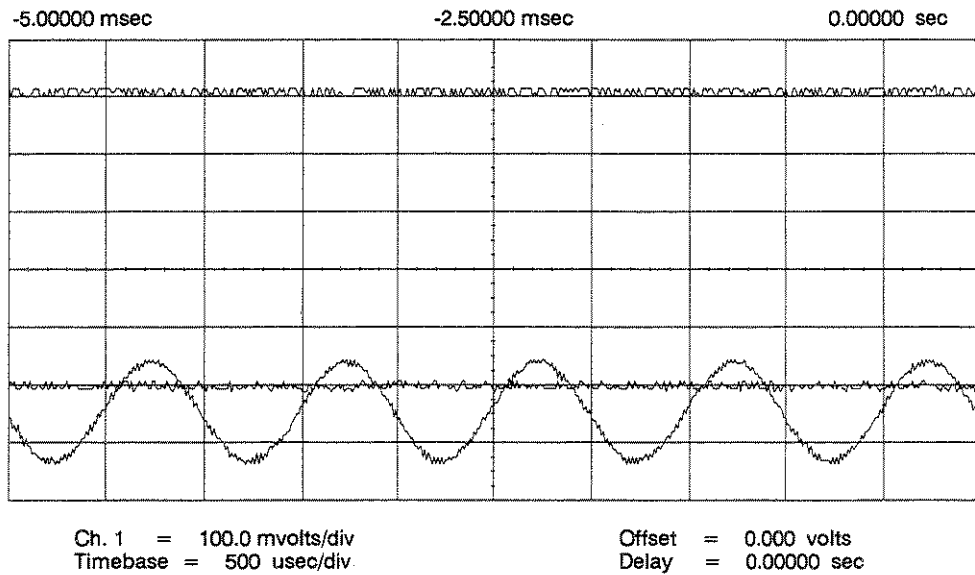

Figure 1-10. R405 Incorrectly Adjusted
b. If the oscilloscope display looks like figure 1-10, adjust A62 R405 to position the flat trace at the center of the sine wave trace as shown in figure 1-8.